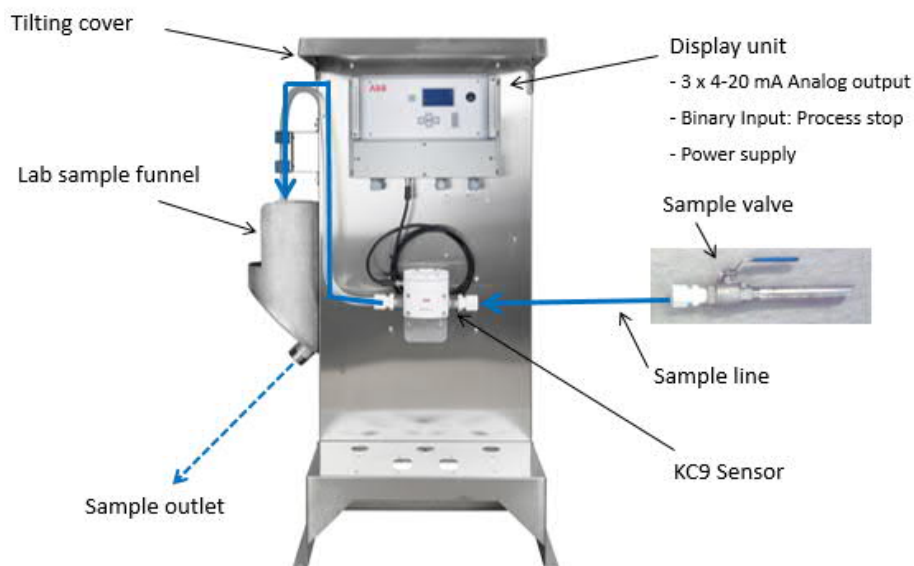

Figure 6. KPM KRA/T headbox sensor, main parts and sample flow.
Locate the sensor so that it is easy to operate and maintain. Figure 6 shows the main parts of the sensor and sample flow direction.
- Flushing and pump sealing water have a common connection: R1/2" (Figure 6, A).
- Instrument air connection: R1/4" (Figure 6, B)